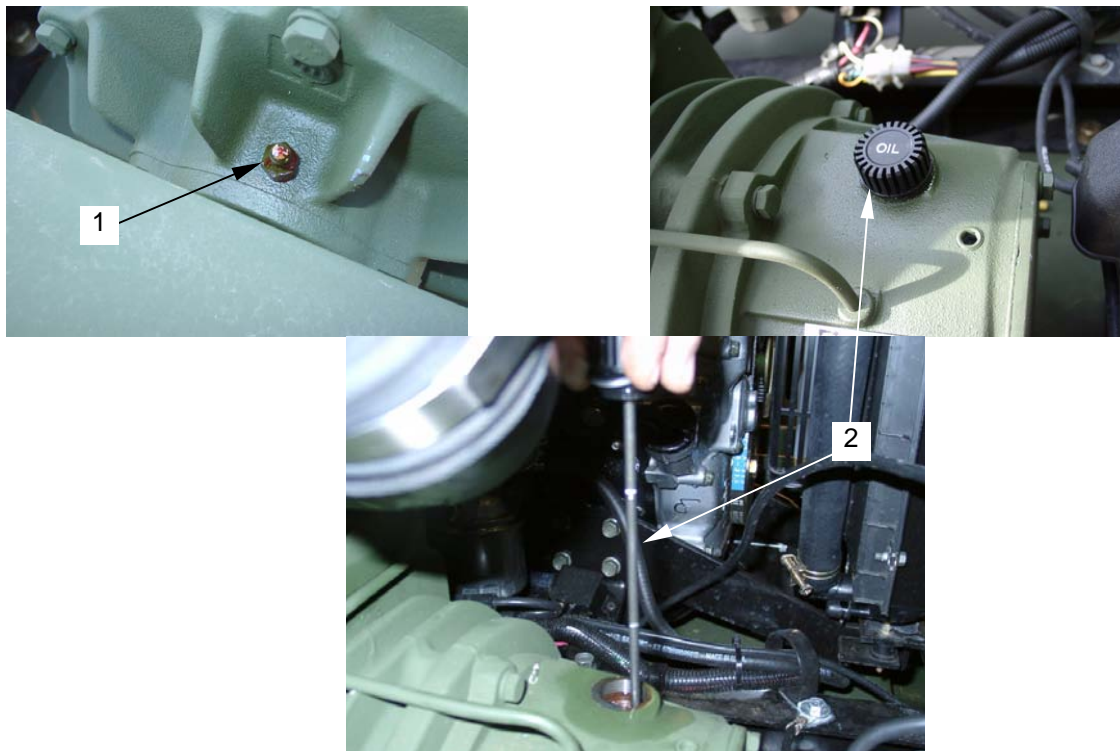

Figure 22. Vacuum Pump
- a. Lubricate the front bearing grease nipple, **(figure 22, item 1)** with ball bearing grease every 100 hours of operation.
- b. Check and replenish vacuum pump oil as indicated by the dipstick **(figure 22, item 2)**. Use SAE 40 grade oil in the summer and SAE 30 grade oil in the winter.